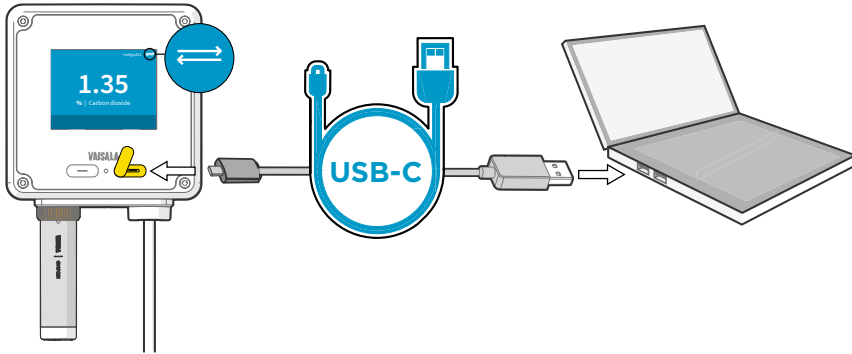

Figure 12 Connecting Indigo200 transmitter to Insight PC software with USB-C cable
5. In transmitter models with a display, the USB connection icon (see Figure 12 \(page 28\)) appears on the top right corner of the transmitter display when the USB cable connection is active.